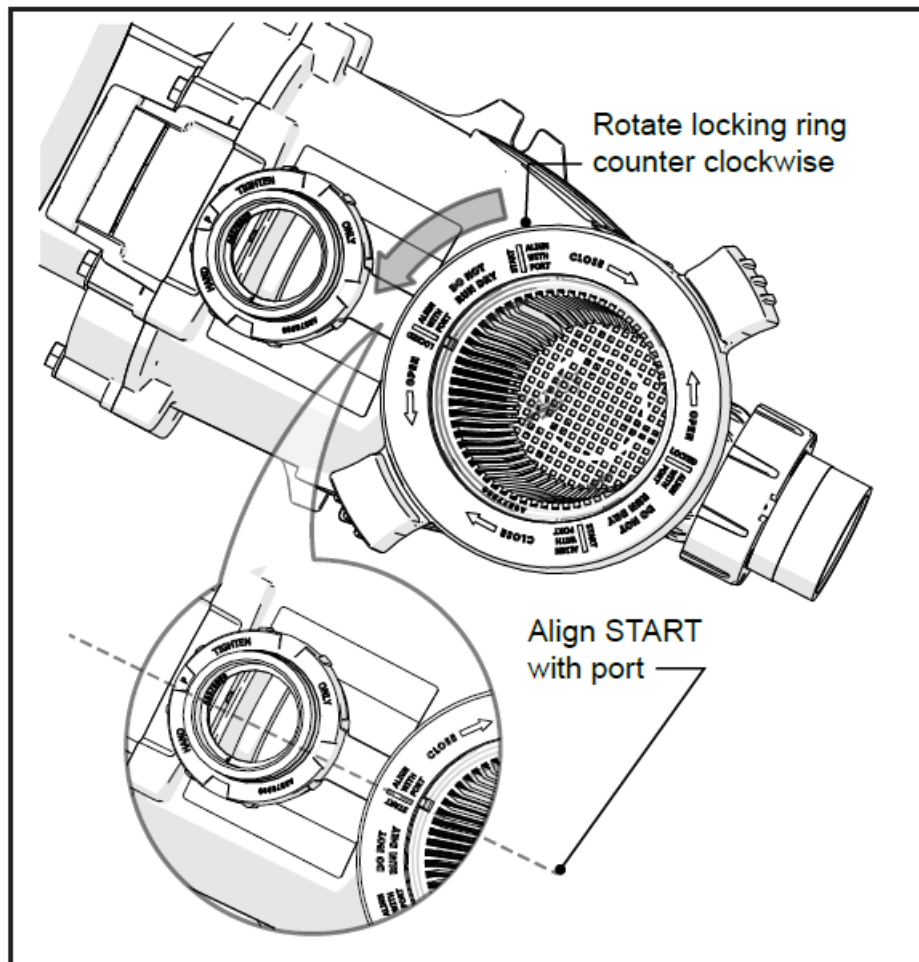

Figure 12. Disengage Lock Ring
4. Following the markings on the locking ring, turn the ring counter-clockwise until the 'START' markings align with the ports. See Figures 12.